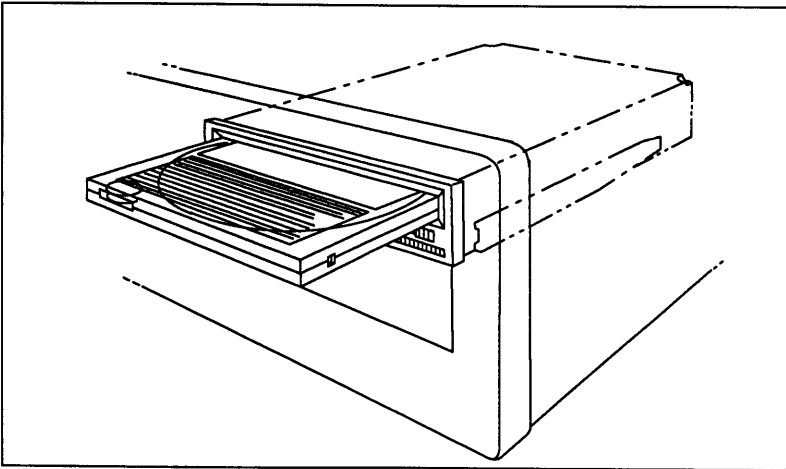
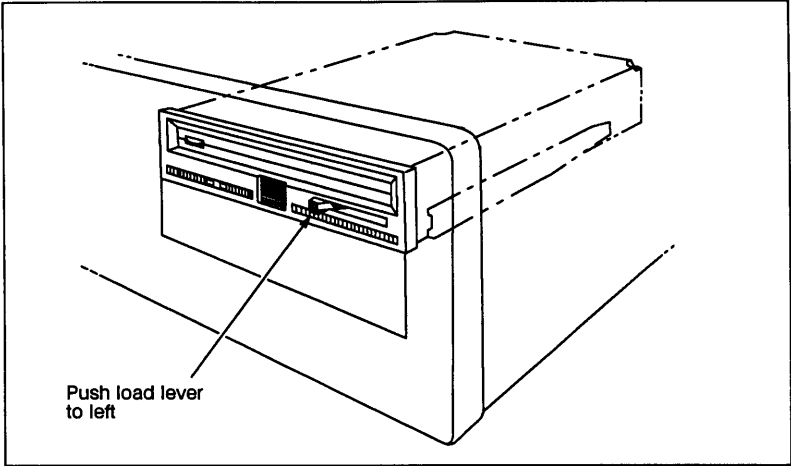

Figure 2-1. Inserting The Cartridge
Figure 2-2. Spinning Up The Disk
- b. Insert the cartridge into the drive through the drive door. See FIGURE 2-1. When the cartridge slides into the drive and comes to a stop, the load lever pops out. See FIGURE 2-2.
- c. Push the load lever to the left until it is flush with the front panel. See FIGURE 2-2. The AMBER/RED LED light starts to flash as the drive begins to spin up the disk.